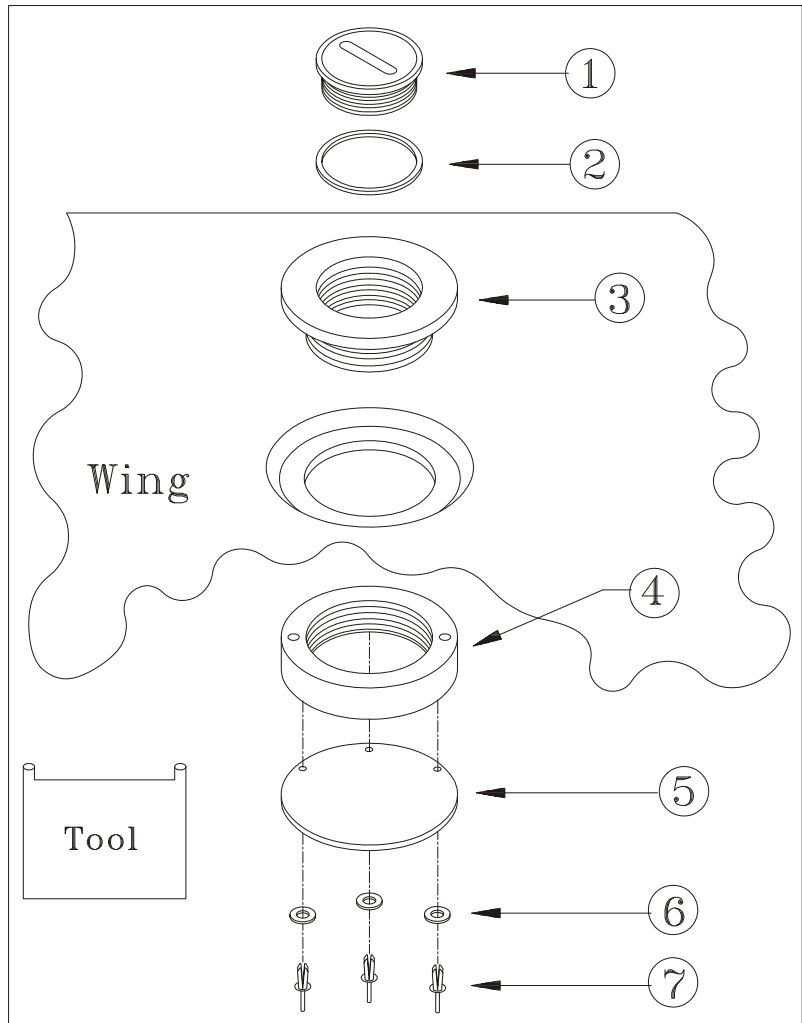

Figure 6 Filler Neck and Sealing Lip Removal/Installation
- 3 Unscrew filler neck lock ring (4, figure 6) with sealing lip (5) using a tool as shown in figure 6.
- 4 Remove filler neck (3) with filler cap (1) and O-ring (2).
- 1 Carefully drill out the body-bound rivets (7, figure 6).
- 2 Install the new sealing lip using new washers (6) and body-bound rivets.